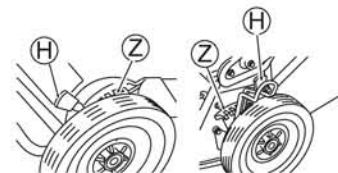

Fig. 22
2. Lean the mowing height adjustment lever (H) toward the wheel side, separating from the notches (dents) (Z). (See Figs. 22 and 23)